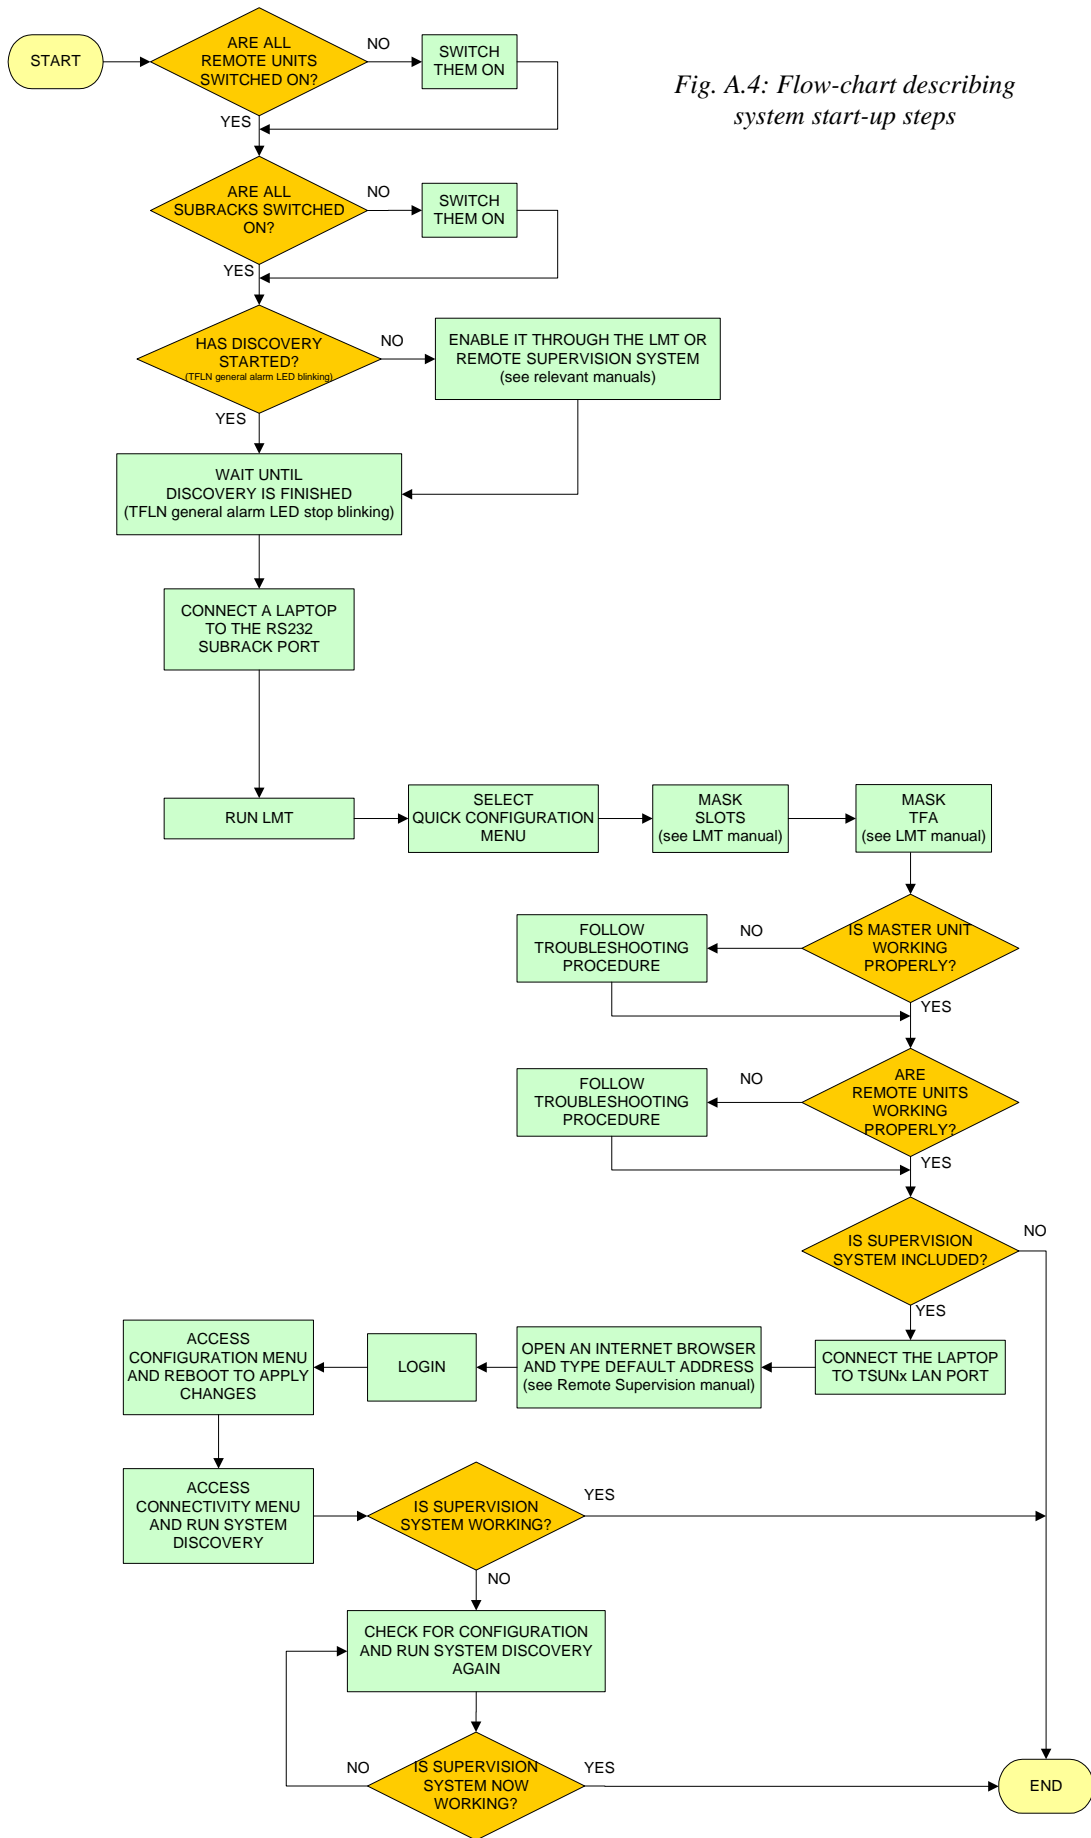

Fig. A.4: Flow-chart describing system start-up steps
- the system start-up is described in more details in the flow chart in figure A.4. It takes care of the flow of actions from the remote and